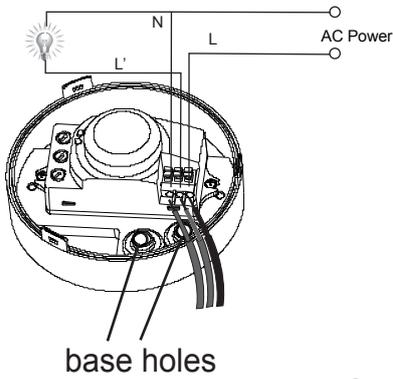

fig.5
4. Put the power wire and load wire through the base holes ( see fig.5 ) ;